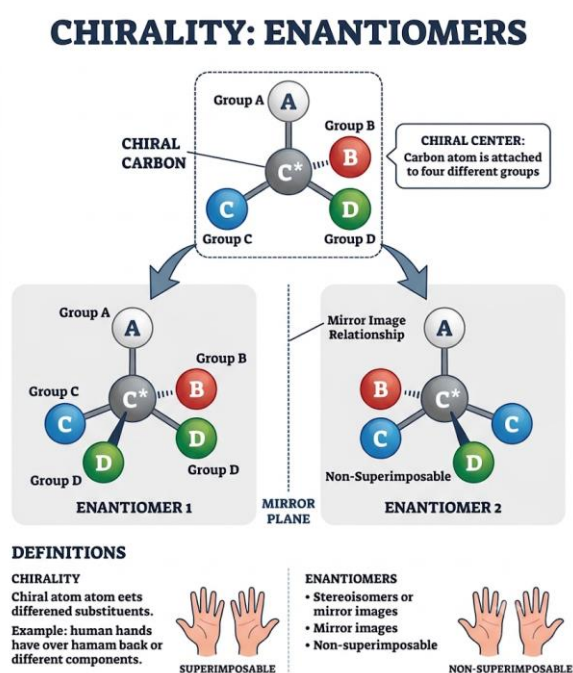

Figure 4.5 Chirality and enantiomers.
- Figure 4.5 Chirality and enantiomers (OER diagram).